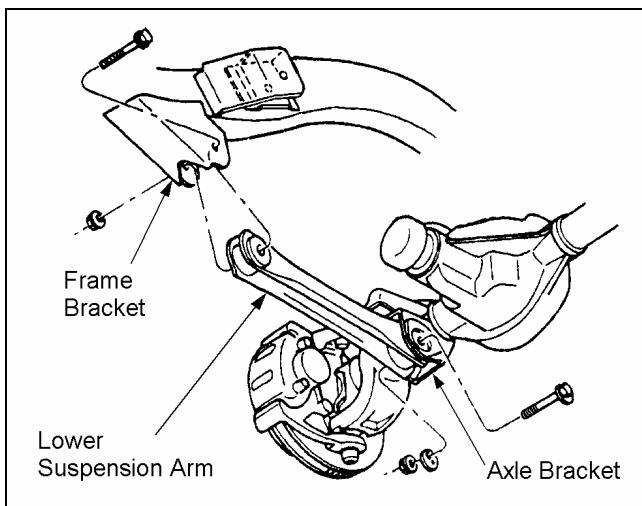

Figure 5
- 4) ☐ Remove the nut, cam, and cam bolt from the axle bracket. Remove the nut and bolt from the frame bracket. Remove the lower suspension arm. See Figure 5.